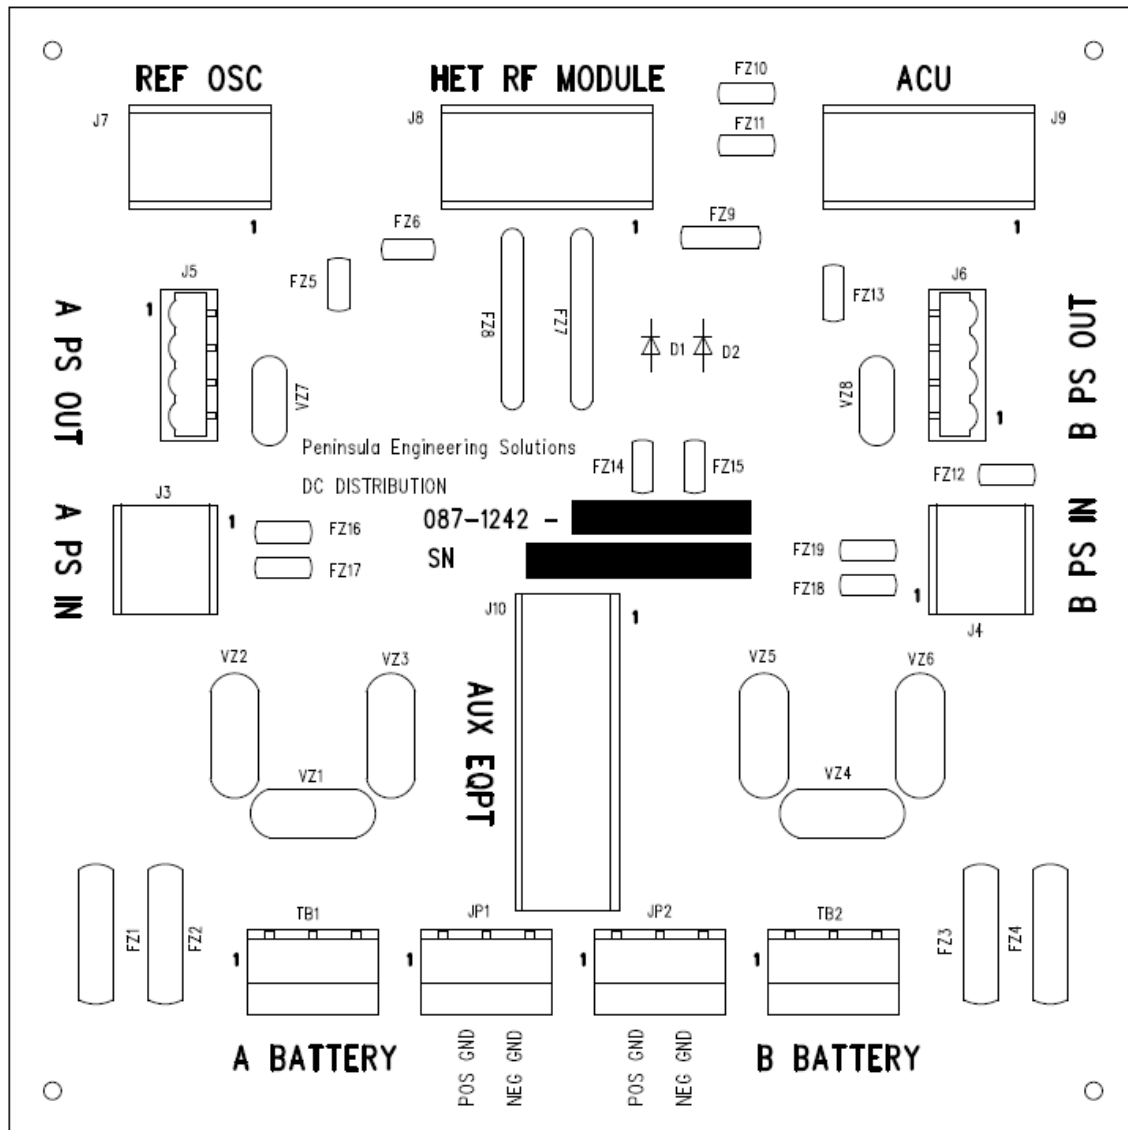

Figure 23 DC Distribution Assembly and Battery Input Blocks
2. Tables 17, 18 and 19 list the connections and jumper positions for the available configurations. Figure 10 shows the DC power connection schematic. Figure 23 shows the board layout.
1. Confirm the repeater is connected to the antenna feedlines, is grounded and that the power system has been installed and tested. Confirm that battery polarity jumpers are in place and correct. See Tables 17, 18, 19 and Figure 23.
2. When a single battery supply is used, parallel the DC inputs at the DC Power Distribution Assembly. See Tables 18, 19 and Figure 23.